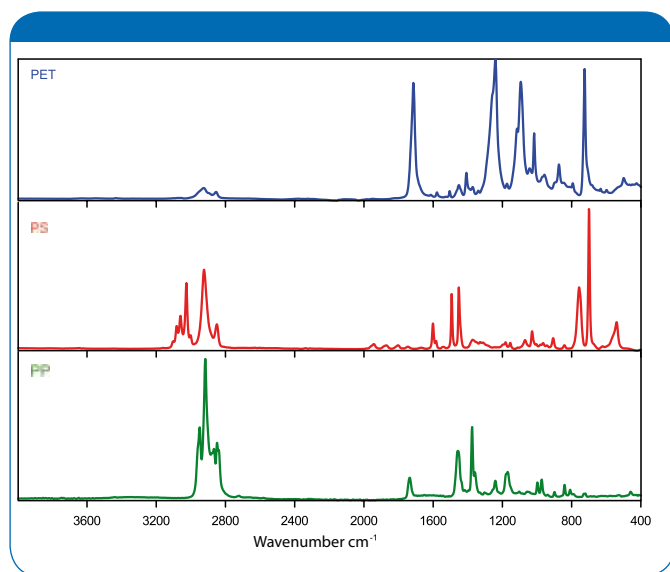
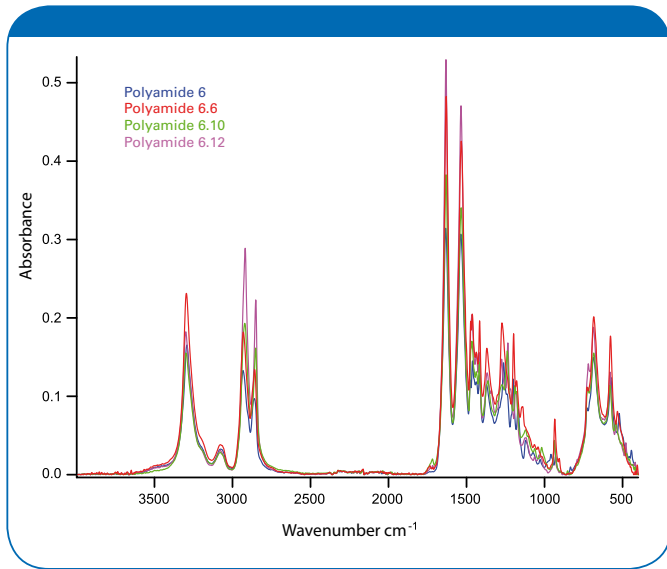
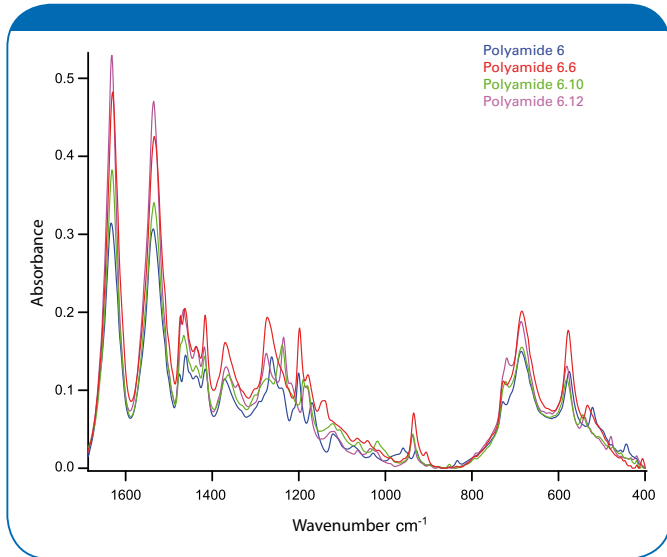

Figure 2: IR spectra of polyethylene terephthalate (top), polystyrene (middle) and polypropylene (bottom).
Figure 3: Spectra of polyamides measured with an ALPHA-P spectrometer.
Figure 4: Magnification of the spectra from figure 3.
Most of polymers can be spectrally very easily distinguished because they are, from a chemical point of view, very different. As an example, figure 2 shows the spectra of polyethylene terephthalate (PET), polystyrene (PS) and polypropylene (PP). Clear differences in the spectra can be seen here at first sight. This looks somewhat different for the group of polyamides, despite different physical properties the polyamides 6, 6.6, 6.10 and 6.12 are chemically very similar. The only difference between the polyamides 6.6, 6.10 and 6.12 is the carbon chain length of the dicarboxylic acids used as monomers. Since the basic structure of the polyamides is the same one would not expect significant differences in the IR spectra. Indeed, at first glance, the spectra of the measured polymers look very similar and it seems difficult to say which spectrum belongs to which polymer (see figure 3). A closer examination shows that there are differences in the region between 1800-400 cm^{-1} (see figure 4). These small differences are sufficient to discern the single polymers from each other. With the help of the „spectra comparison“ function in OPUS, all of the four polyamides can be identified successfully and no false positive result occurs.